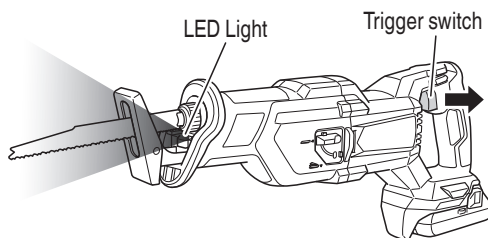

Fig. 25
4. How to use the LED light (Fig. 25)